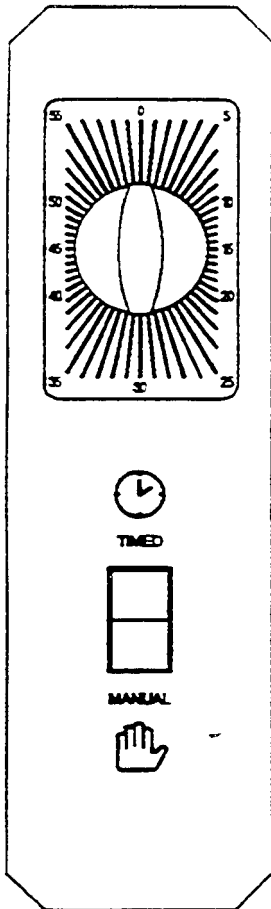

Figure 2-18. Dial Timer Control Panel
**The Dial Timer Control Panel** is shown in Figure 2-18, page 38. The Timer Test for the dial timer control panel starts on page 38.